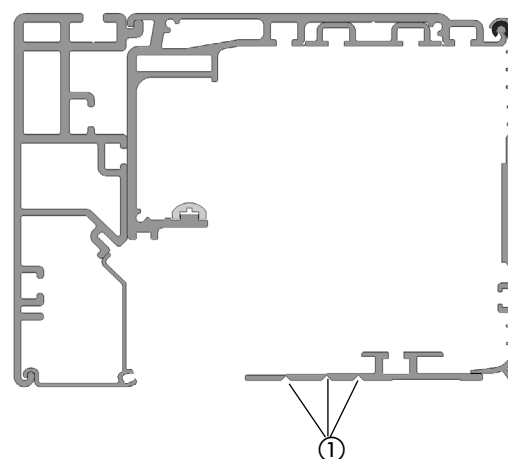

fig. 34
The lower housing profile is pre-marked to adapt it to different leaf thickness values. Eliminate excess material by cutting at the points indicated in fig. 34 ref. ①.